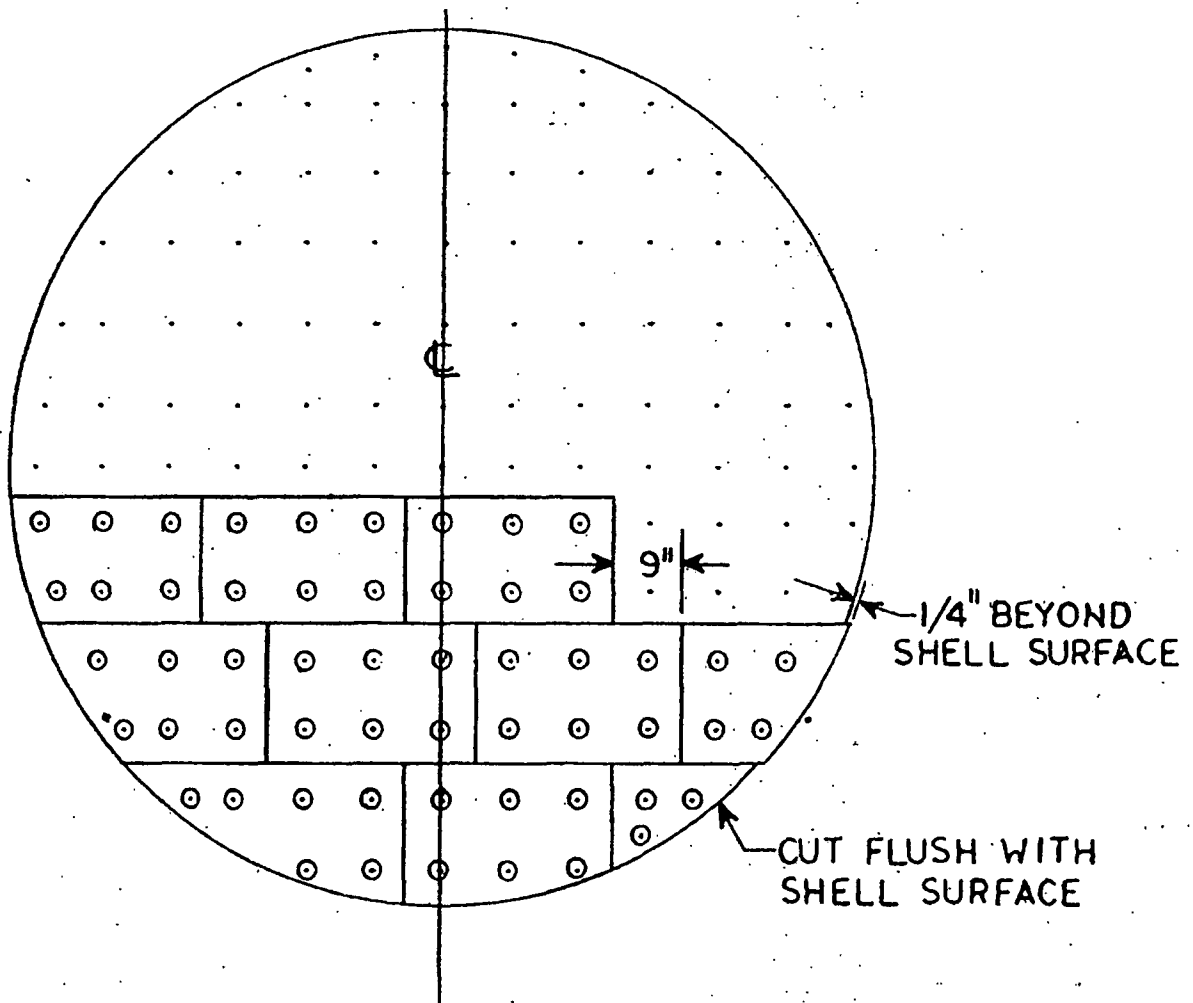

FIGURE 9
- 4A1.7 A 6" stagger of the end joints shall be maintained by staggering the ends of each course as it is started in the middle of the head. (See figure 9) As each block is applied the retaining washers shall be put on the pins and the block pressed firmly against the head while the mastic is still soft.
- 4A1.8 As each course of blocks is applied the end blocks shall be trimmed flush with the shell of the vessel. Care must be taken to prevent trimming them less than the shell radius. The most satisfactory method is to let them extend about $\frac{1}{4}$ " beyond the shell surface and grind them down with the shell insulation when it is applied. (See Figure 9.)